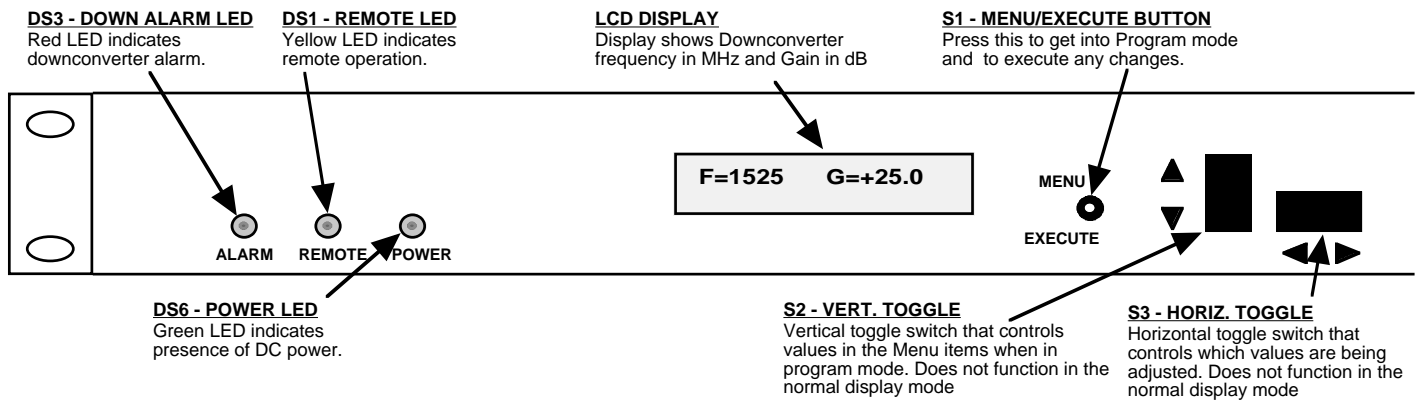

FIGURE 2.3 2016-04A Front Panel Controls and Indicators
Figure 2.3 shows the controls and indicators located on the front panel.
6. Be sure DS6 (green, DC Power) is on and DS3 (red, Alarm) is off (Figure 2.3).
Alarm indications appear on the LEDs (see figure 2.3).